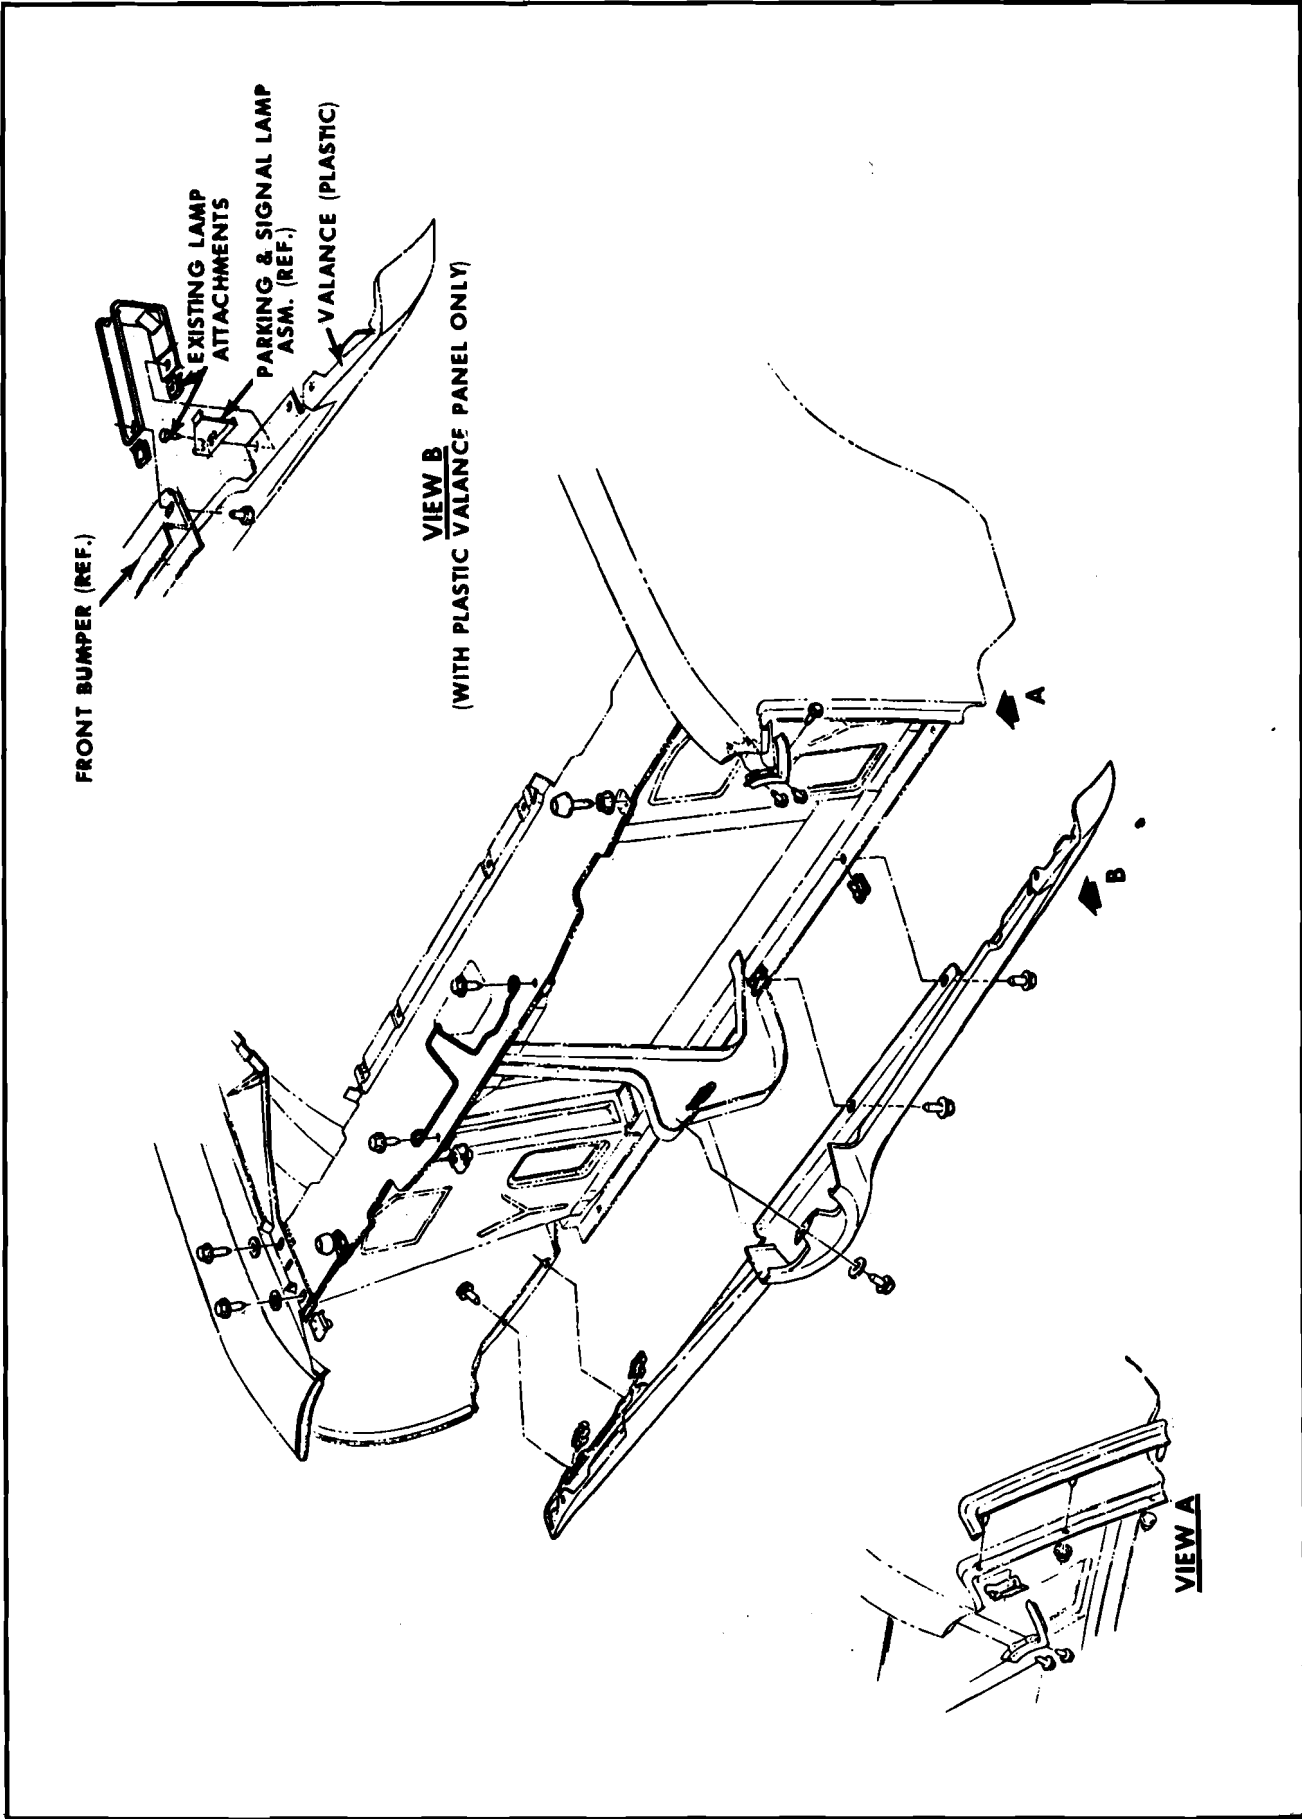

Fig. 11-9 Pontiac Valance Panel
4. Loosen jam nut on adjustable hood bumper (Figs. 11-9 thru 12) and raise or lower as required.